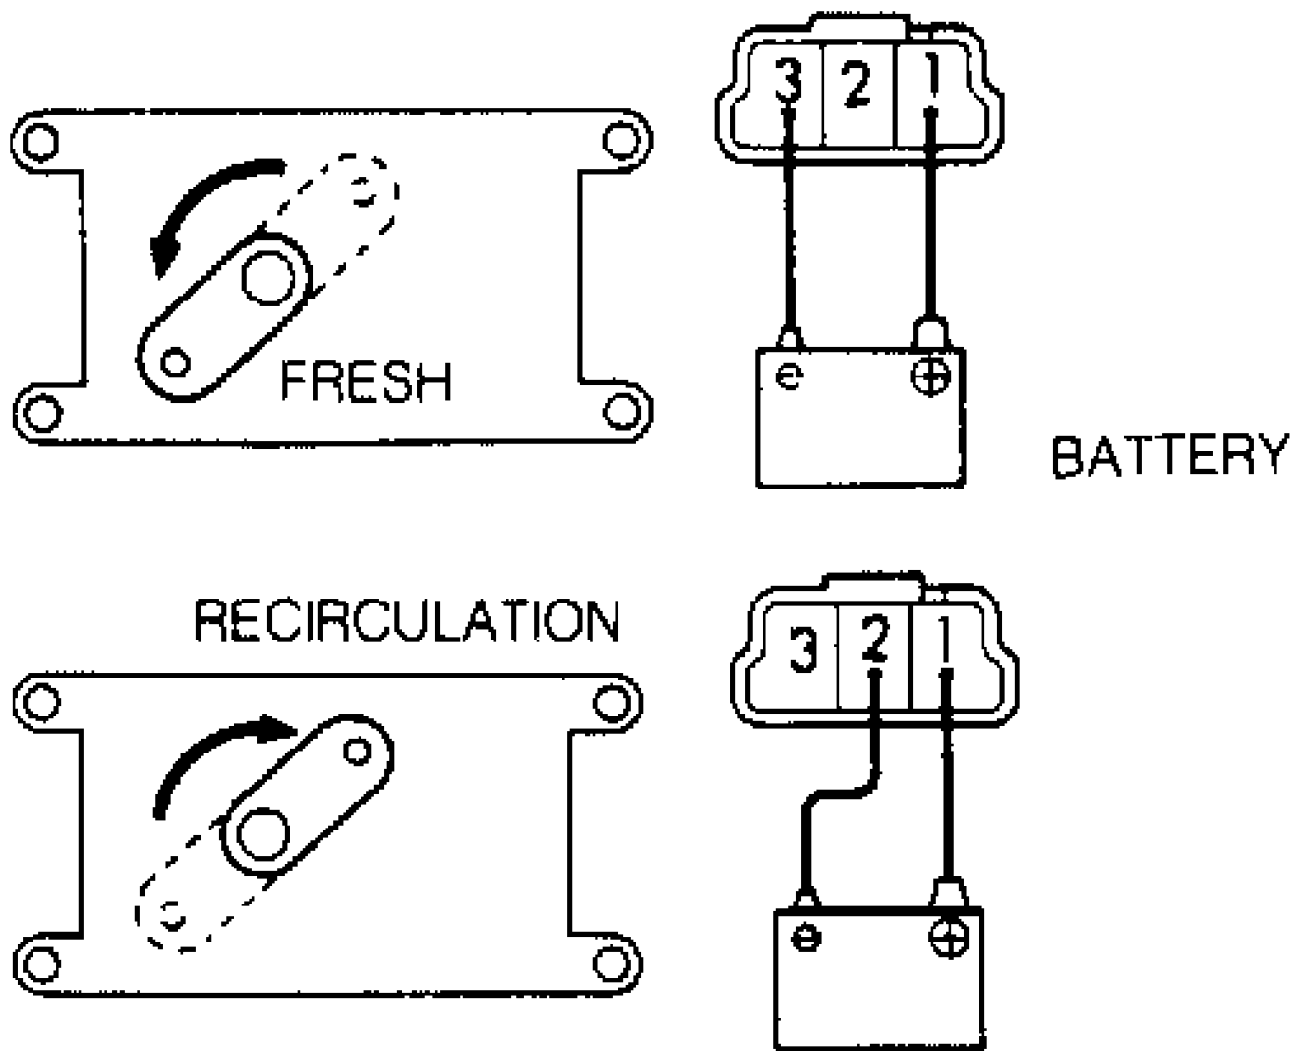

Fig. 1: Testing Air Inlet Control Servomotor
1) Disconnect air inlet control servomotor wiring harness connector. Ground terminal No. 3, and apply battery voltage to terminal No. 1. See Fig. 1. Ensure arm rotates smoothly to fresh (full counterclockwise) position.